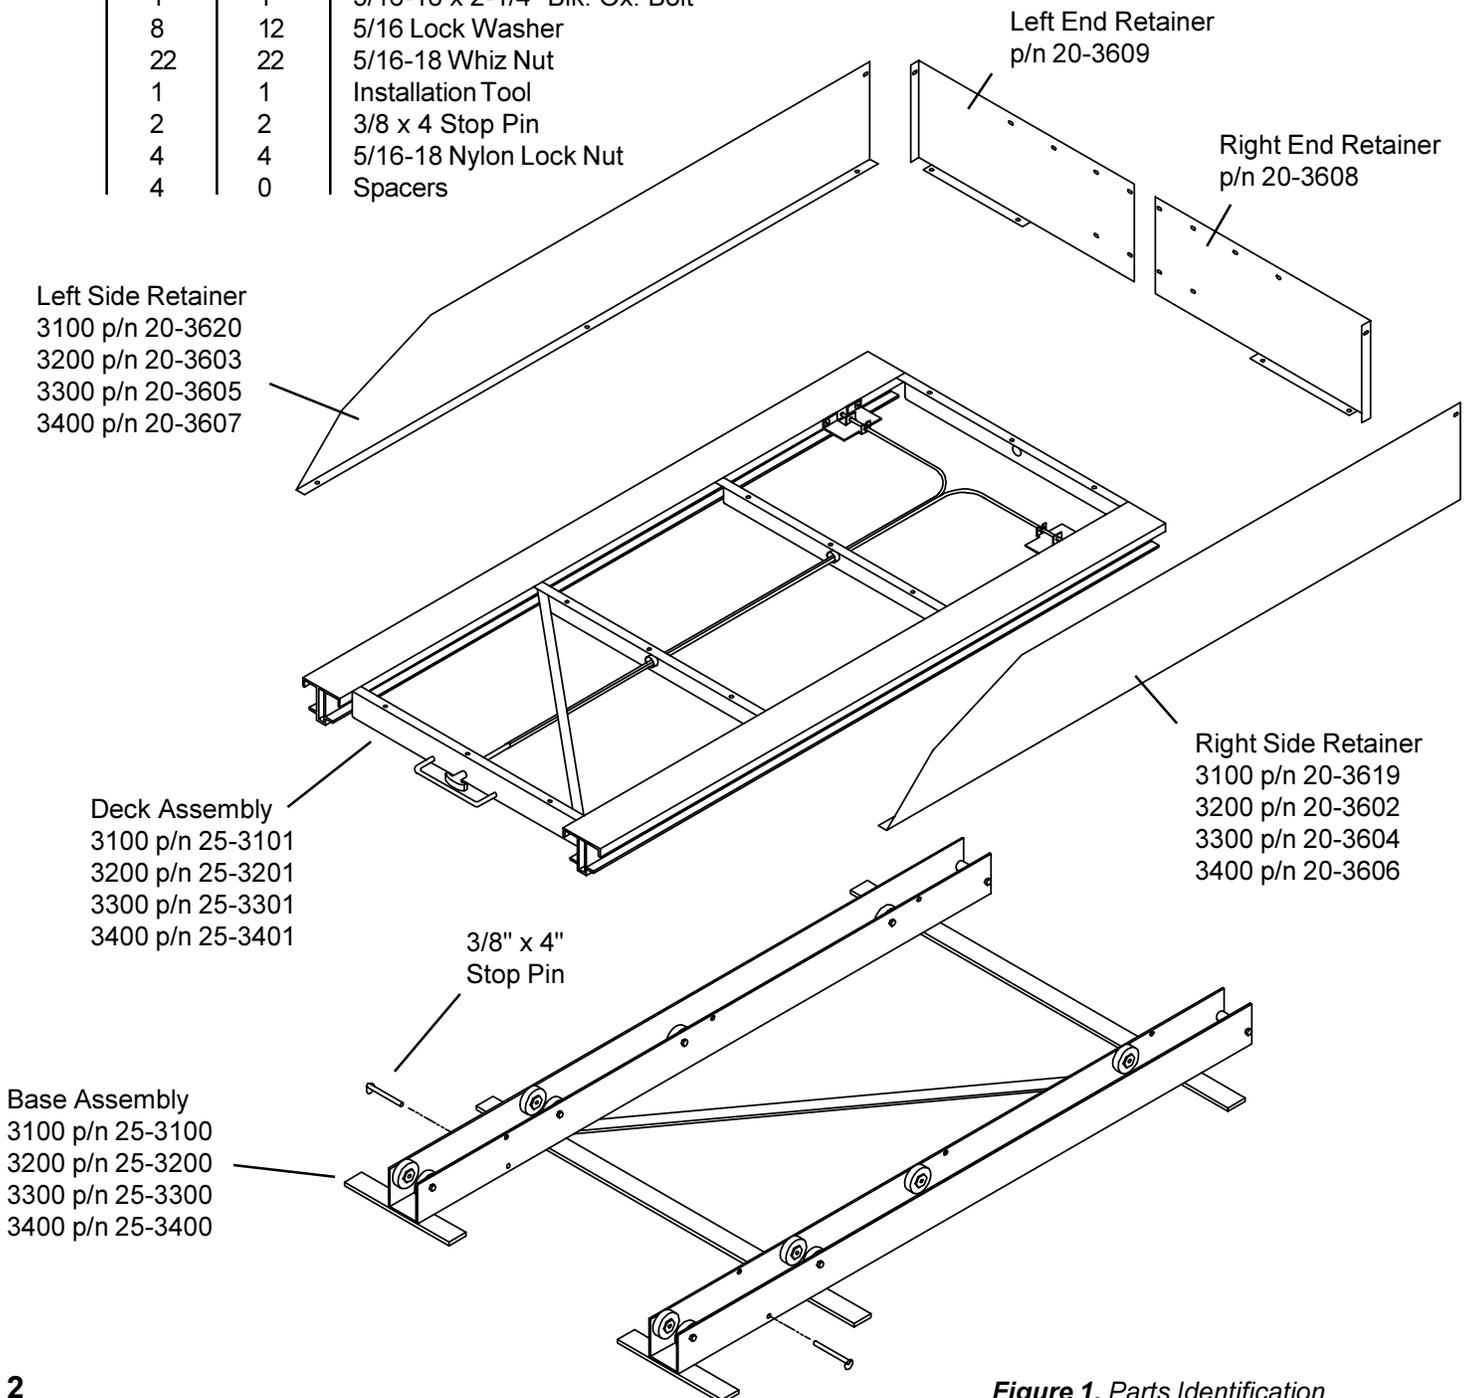

Figure 1. Parts Identification
1. Place the Base Assembly centered in the vehicle. See *Figure 1.* for correct location. Close the tailgate or doors to make sure the unit is properly placed. If installing a Model 3100 out a van side door(s), make sure to take into account the door opening width. If installing a bulkhead, this should be done first.
8. With the help of another person, upright the Deck Assembly and slide it into the Base Assembly while holding the black release handle out. Install the two 3/8" x 4" Safety Stop Pins in the Base Assembly (see Figure 1.).